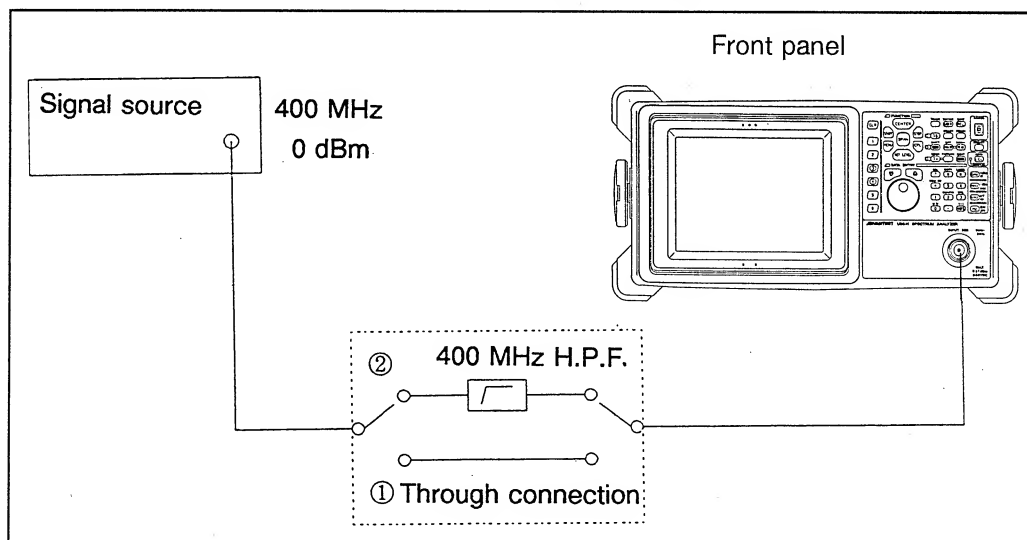

Figure 6-12 Connection of second order harmonic distortion measurement
- (1) First measure the level of the fundamental frequency introduced from the signal generator by making the direct connection as shown Figure 6-12.
- (2) Next insert a 400 MHz high pass filter (HPF) into the analyzer input in order to cut off the fundamental frequency component. (Figure 6-12. switch position 2). If the second order harmonic distortion of the signal generator is sufficiently greater than the analyzer's distortion level then the high pass filter may not be necessary. But if the signal source has a clean output, or you wish to make the most accurate measurements possible, then always use the HPF between the source and the spectrum analyzer in order to suppress the effects of any harmonic distortion from the analyzer.